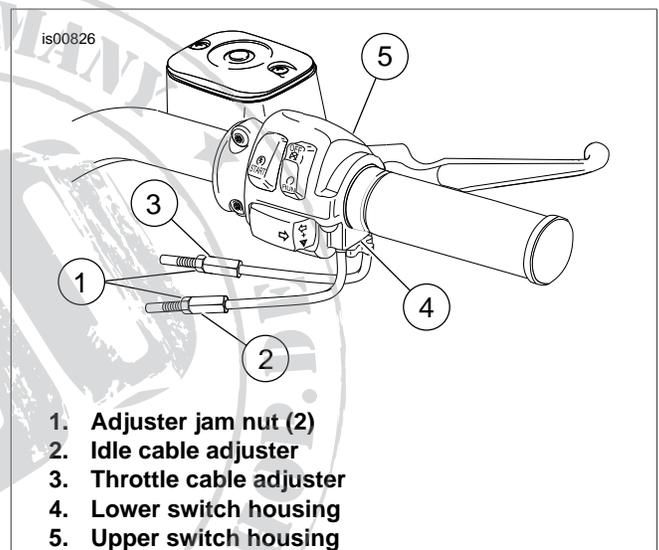

Figure 8. Handlebar Throttle Control
2. See Figure 8. Loosen cable adjuster jam nuts. Screw cable adjusters in until they are as short as possible. This will provide enough slack for easy removal.